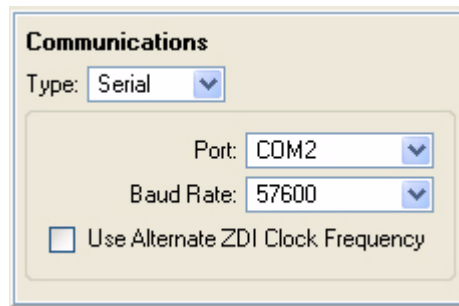
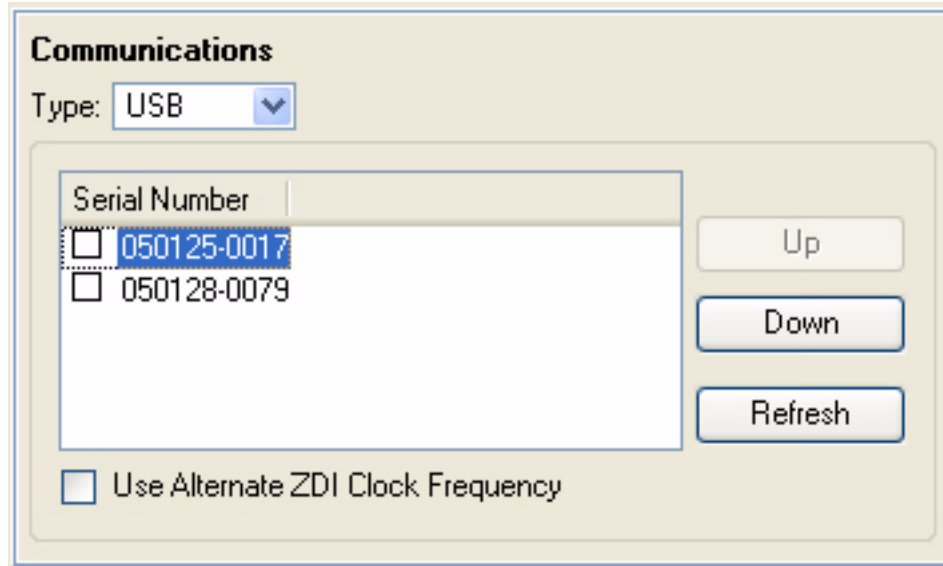
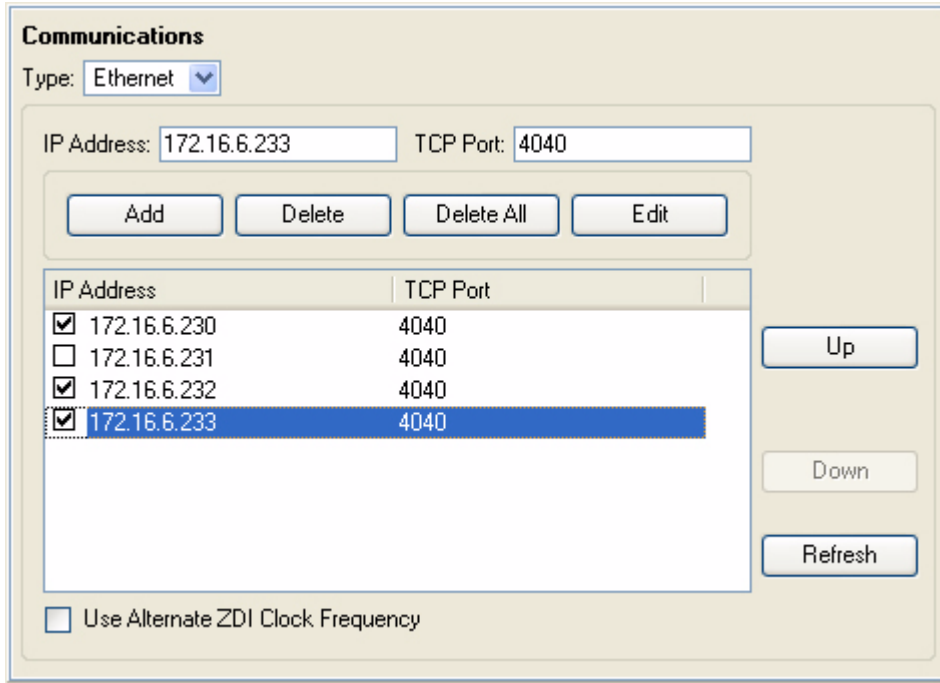

Figure 65. Serial Communication Type
Figure 66. USB Communication Type
Figure 67. Ethernet Communication Type
Click the **Communications** link under **Project** tab in the **Workspace** window, the corresponding **Configuration** window – **Communication** window (see Figure 65 through Figure 67) is displayed.
- When communication type is serial, **Communication** window (see Figure 65) will have the following fields.
- When the communication type is USB, SFP scans all the USB ports on the PC to detect all USB Smart Cables and then lists their serial numbers in the **Serial Number** pane as shown in Figure 66.
The **Communication** window (see Figure 66) provides the following options:
- When the communication type selected is Ethernet, SFP displays a list of IP addresses and the port number as shown in Figure 67. You can select/deselect the check-boxes preceding the IP address to include/exclude the IP address in the project for Flash operations. New IP addresses are added to the list with the Add function.
The **Communication** window (see Figure 67) provides the following options:
If the communication type selected is USB/Ethernet, the **Serialization** window (see Figure 70 and Figure 71) displays all the targets selected for programming. These targets are selected by the user in the **Communication** window (see Figure 66 and Figure 67). SFP automatically calculates the serialization values for all the targets based on the serialization value and the increment settings.
- If the USB type of communication is selected in the **Communication** window (see Figure 66), the **Serialization** window (see Figure 70) will have all the settings configured for serial communication, and in addition, it also includes the **USB Serial Number** pane as shown in Figure 70. The serial number of the USB devices connected will be displayed in the **USB Serial Number** pane.
- If the Ethernet type of communication is selected in the **Communication** window (see Figure 67), the **Serialization** window (see Figure 71) will have all the settings configured for serial communication and in addition, it also includes the IP Address list as shown in Figure 71.